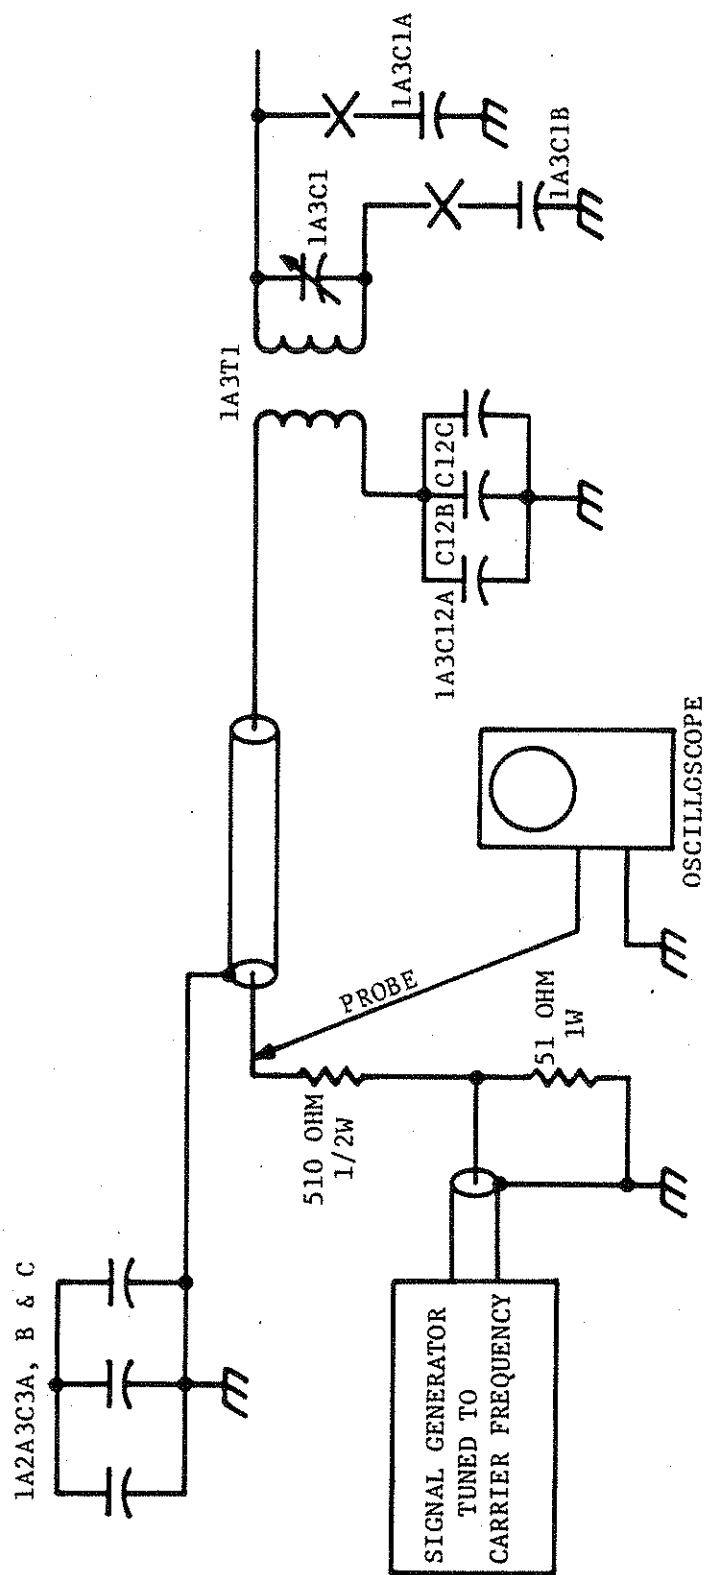

Figure 5-7. Rough Tune-Up Test Set-Up
5-64. If capacitor 1A3C12A, 1A3C12B, or 1A3C12C has to be replaced, as a result of a defective part or a frequency change, refer to figure 8-10 for the correct replacement capacitor. Refer to figure 5-7 for a rough tune-up test set up. The following procedure should be followed for the test.
- c. Connect the equipment and resistors as shown in figure 5-7.